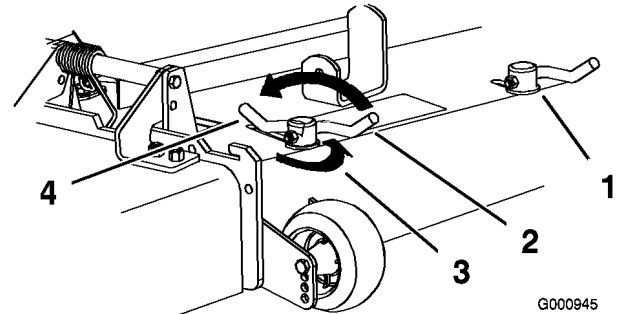

Figure 24
3. To adjust the cam locks, swing the lever up to loosen the cam lock (Figure 24).
5. Swing the lever back over to tighten the baffle and cam locks (Figure 24).